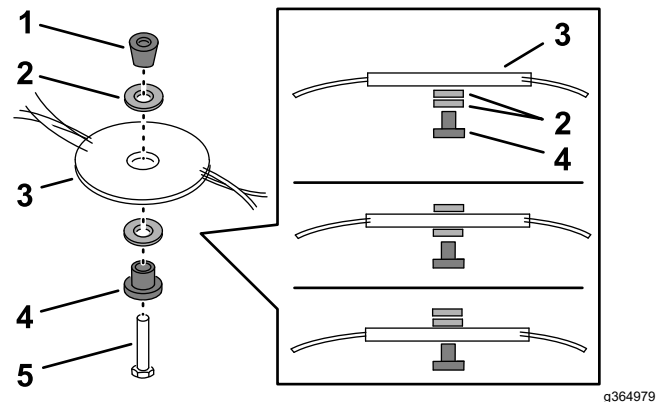

Figure 29
5. Use the wrench provided with the machine to remove the cutting disc by turning the bolt counterclockwise (Figure 29), saving all the mounting hardware.